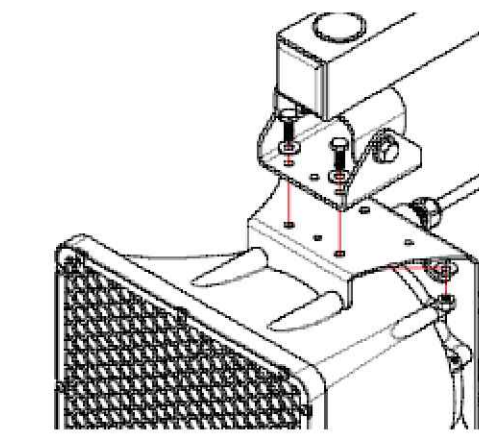

Figure 4: Attaching Wall Mounting Bracket
- 1) To mount a single TPCA-10, attach the mounting bracket to the wall bracket (optional accessory or customer supplied) with three 1/2-20 bolts (Figure 4).